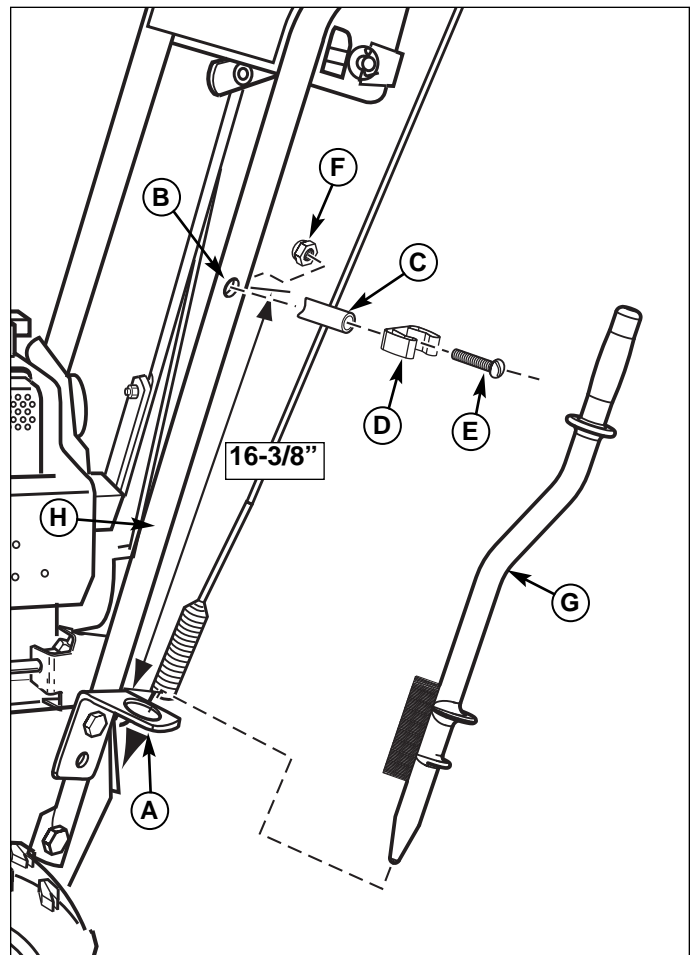

Figure 6. Mounting Clean-Out Tool (Tube Handle)
3. Measure 16-3/8" from top of bracket (A, Figure 6) to center of handle (B). Center punch and drill a new 13/64 hole (B) in handle (H).
4. Attach clip (D) to handle (H) securing with #10-24 x 2-1/2 screw (E), 1-1/4" spacer (C), and #10-24 lock-nut (F) mounting through new hole (B).
5. Attach clean out tool (G) to handle (H) by first placing pointed end into bracket (A), then pushing hand grip into clip (D).